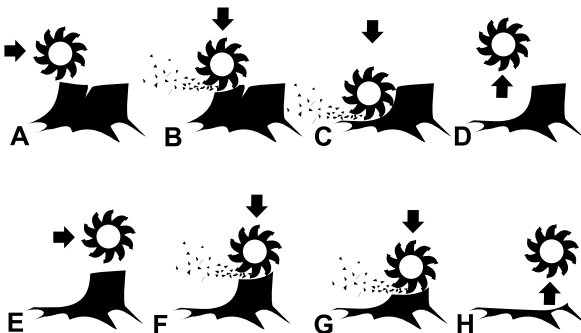

Figure 10
each sweep, until you have removed the front portion of the stump to ground level (A through D in Figure 10).
8. Repeat steps 5 and 7 until you have completely removed the stump (E through H in Figure 10).